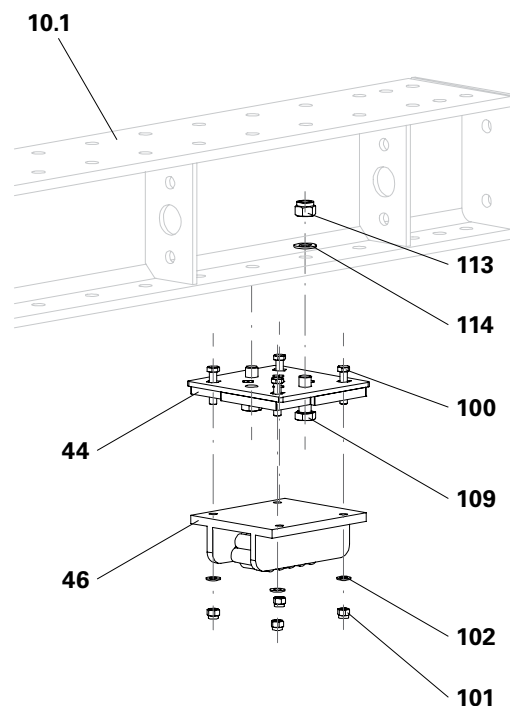

Fig. B2.17
1. Insert bolts M12x55 (100) into the holes of the Heavy-Duty Roller Swivel Plate (44). The bolt head must be flush with the Heavy-Duty Roller Swivel Plate.
3. Insert bolts M20x60 (109) through the holes. The bolt head must be flush with the Heavy-Duty Roller Swivel Plate.
4. Fix the Heavy-Duty Roller Swivel Plate using washers M20 (114) and self-securing nuts M20 (113).
5. Secure the Heavy-Duty Roller 200kN (46) with washers M12 (102) and self-securing nuts M12 (101).
- (Fig. B2.17)